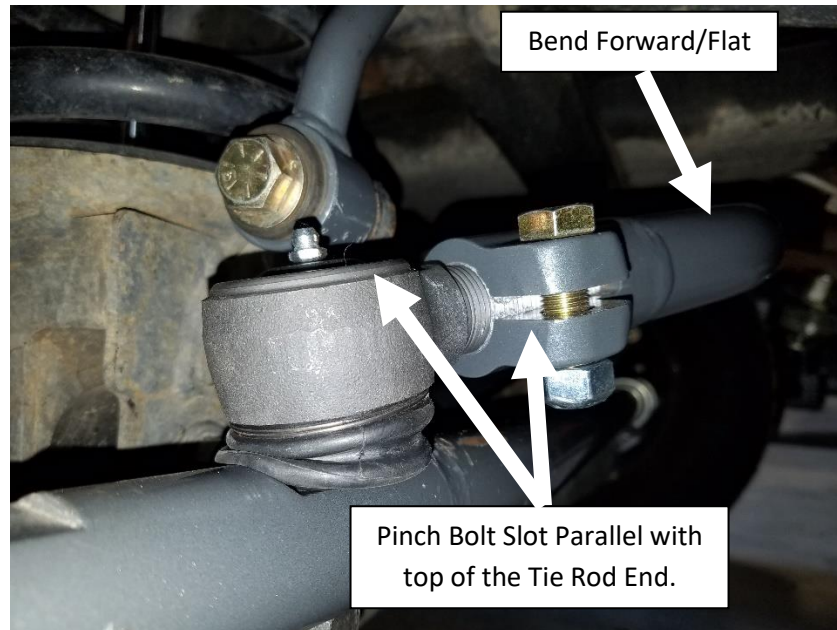

Figure 16. Pinch Bolt Style Drag Link Tie Rod End Correct Alignment
25. Align the drag link so pinch bolt forging is forward and the bend is flat. Tighten the pinch bolt on the tie rod side, you do not need to fully torque at this time. Tightening the pinch bolt will 'lock' the drag link into position. The tie rod end that goes from the drag link into the tie rod is a single plane tie rod end that will prevent the drag link from 'flopping'. See **Figure 16**.